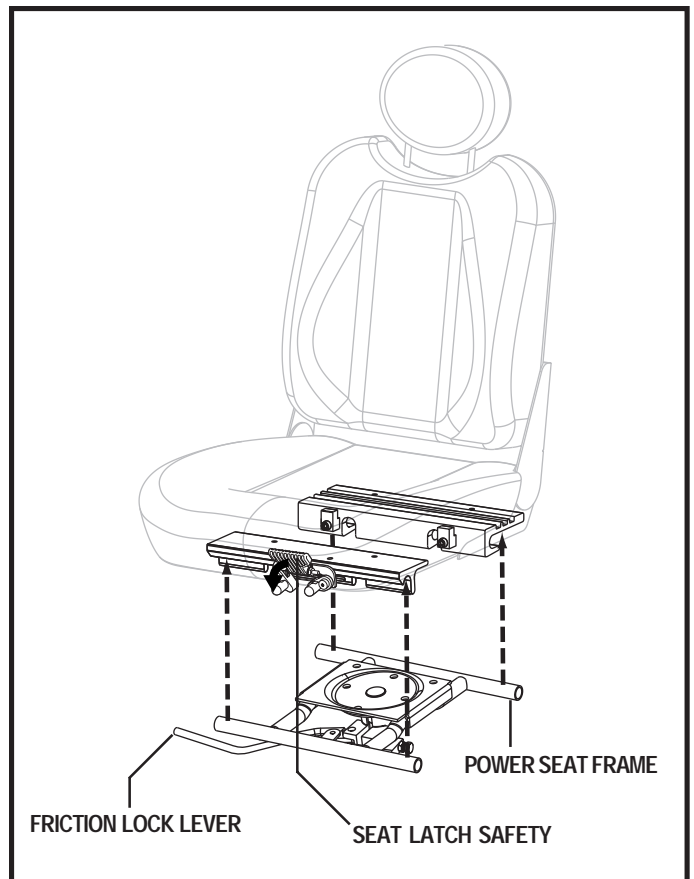

Figure 14. Power Elevating Seat Installation
5. Flip the seat latch safety down. See figure 14.